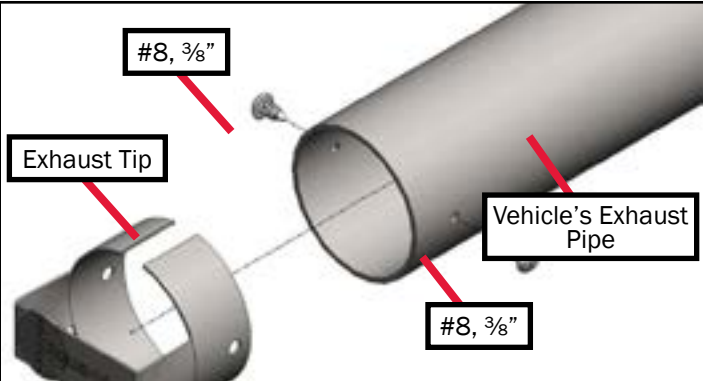
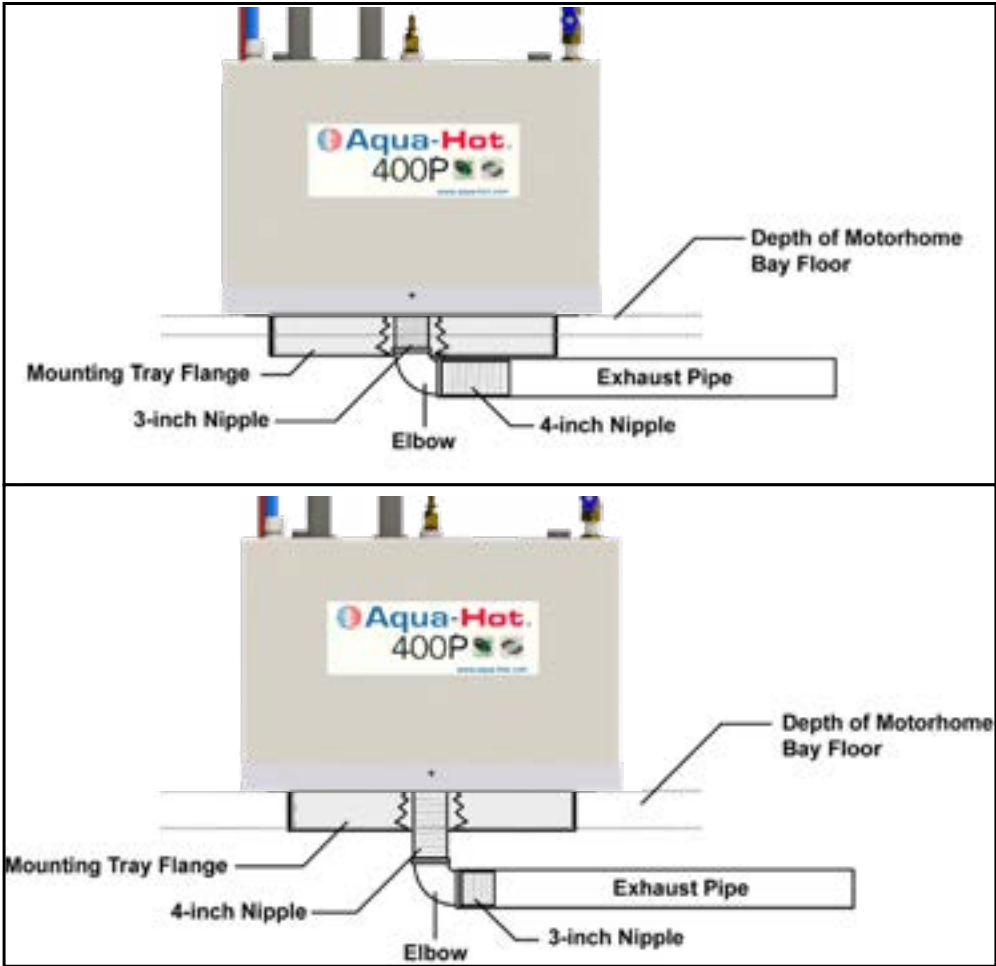

Figure 16
Figure 18
- The Aqua-Hot is supplied with a 3 inch and 4 inch black pipe nipple (1.5 inch diameter) along with a 1.5 inch exhaust elbow. Reference Figure 16. These three exhaust system components MUST BE utilized with all product installations. Be sure to reference Figure 18 and 19 to determine which exhaust nipple should be connected directly to the Aqua-Hot's exhaust port (the 3 inch of the 4 inch black pipe nipple).